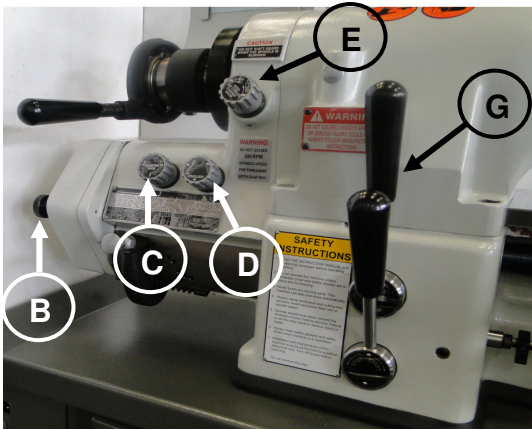
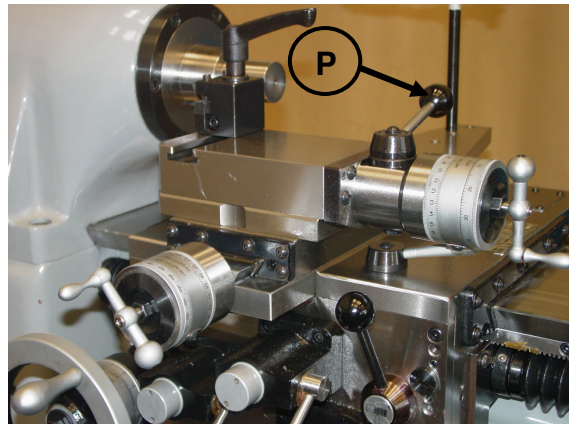
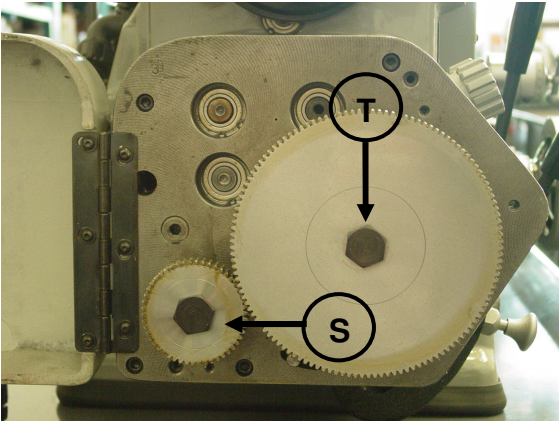

Figure 52-Headstock and Gearbox
Figure 53-Carriage and Compound Slide
Figure 54-Thread Gearbox
3. Loosen knob "B" (Figure 52), open gearbox door and remove 127 tooth gear "T" (Figure 54).
12. Close gearbox door, tighten knob "B" (Figure 52), and turn selector knob "C" (Figure 52) to position specified on chart.
13. Turn Inch/Metric knob "D" (Figure 52) to "Metric".
14. Turn Feed/Thread knob "E" (Figure 52) to "Thread".
15. Follow same procedures for setting carriage stop, lead screw nut and compound slide as when cutting threads from the gearbox. Use of carriage control lever "G" (Figure 52), and quick-acting handle "P" (Figure 53), will also be the same as when cutting threads from the gearbox.
**NOTE : (a) 50 tooth gear "S" (Figure 54), and 127 tooth gear "T" (Figure 54) must be remounted without bracket to obtain metric thread pitches through gearbox.**